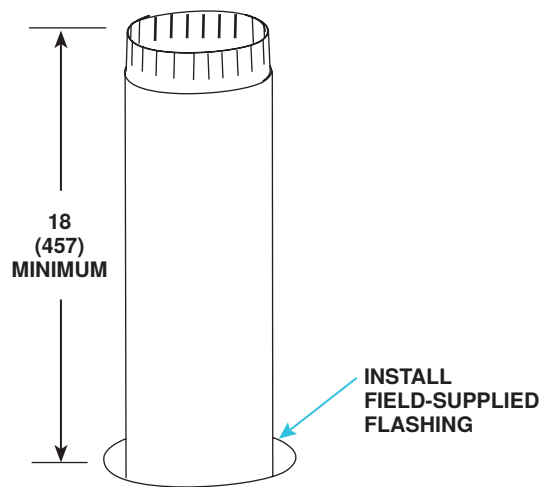

Figure 23. Combustion Air Pipe Through Roof
- a. Insert combustion air pipe through roof as shown in Figure 23.